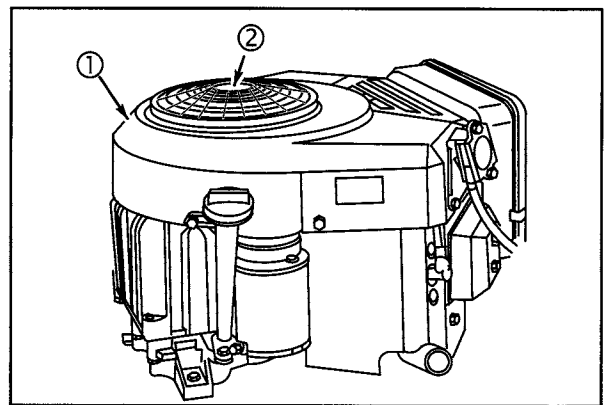

Fig. 7
1. Remove blower housing (1) and debris screen (2), Fig. 7.